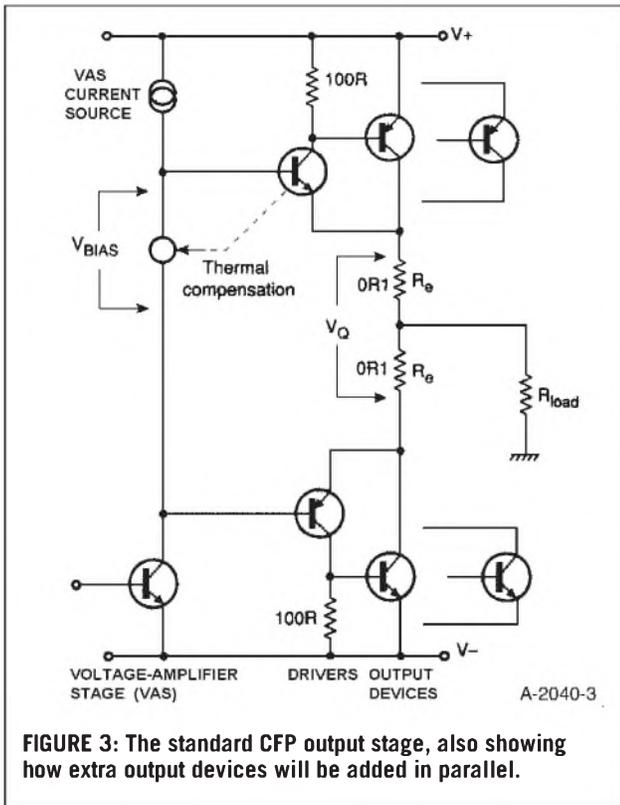

FIGURE 3: The standard CFP output stage, also showing how extra output devices will be added in parallel.
LSN occurs in both emitter-follower (EF) and complementary feedback pair (CFP) output configurations; this part of the article concentrates on the CFP, as in Fig. 3. Figure 4 shows the incremental gain of a SPICE-simulated CFP output stage for 8Ω and 4Ω ; the lower 4Ω trace has a greater downward curvature; i.e., a greater falloff of gain with increasing current. Simulated EF behavior shows a similar increased droop with 4Ω loads.